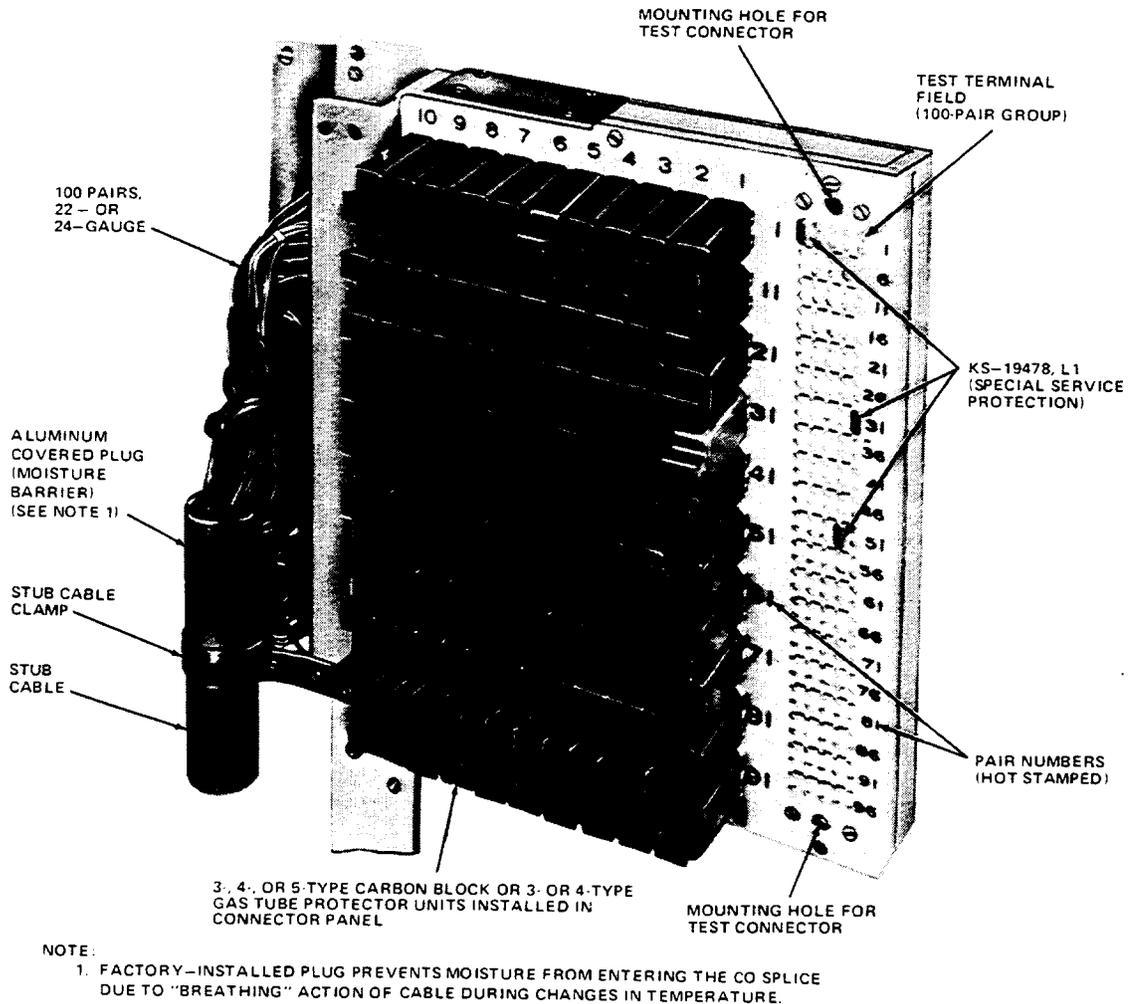

**Figure 22—307D1-100 Connector**
6.06 The 307-type connectors (Figure 22) are designed for use on the *COSMIC II*, *COSMIC IIA*, and *COSMIC II Mini* distributing frame systems,